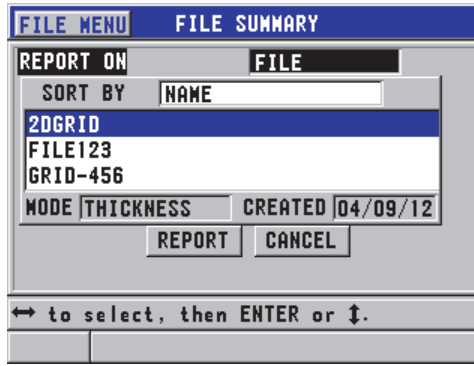

Figure 6-39 The **FILE SUMMARY** report screen
3. In the **FILE SUMMARY** screen (see Figure 6-39 on page 121):